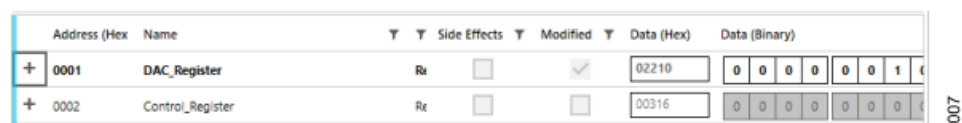

Figure 7. AD5781 Memory Map with Unapplied Changes in the DAC_Register
- Click Apply Changes to transfer data to the device. All changes or configurations made in the AD5781 Memory Map or AD5791 Memory Map tab are not reflected in the INITIAL CONFIGURATION tab. Any bits or registers that are shown in bold in the AD5781 Memory Map or AD5791 Memory Map tab are modified values that have not been transferred to the evaluation board (see Figure 7). Click Apply Changes to transfer the data to the EVAL-AD5781ARDZ or EVAL-AD5791ARDZ.